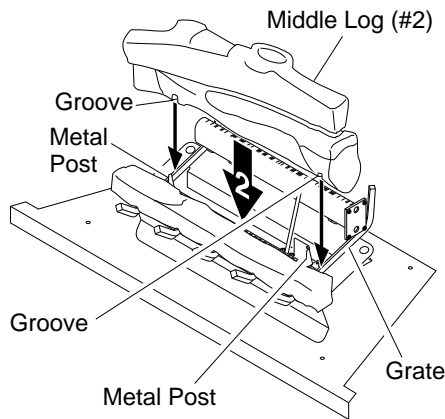

Figure 23 - Installing Middle Log (#2)
2. Rest middle log (#2) behind metal posts on front burner. Make sure the grooves in the bottom of the log fit over the grate. Bring the log forward next to the metal posts (see Figure 23).